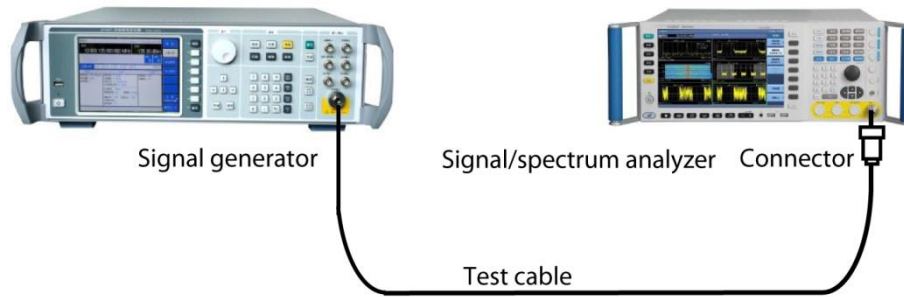

Fig. 4.74 Connection Settings of Burst Power Measurements
Step 2. Connect the radio frequency output port of the signal source to that of the analyzer. As shown in Fig. 4.74: